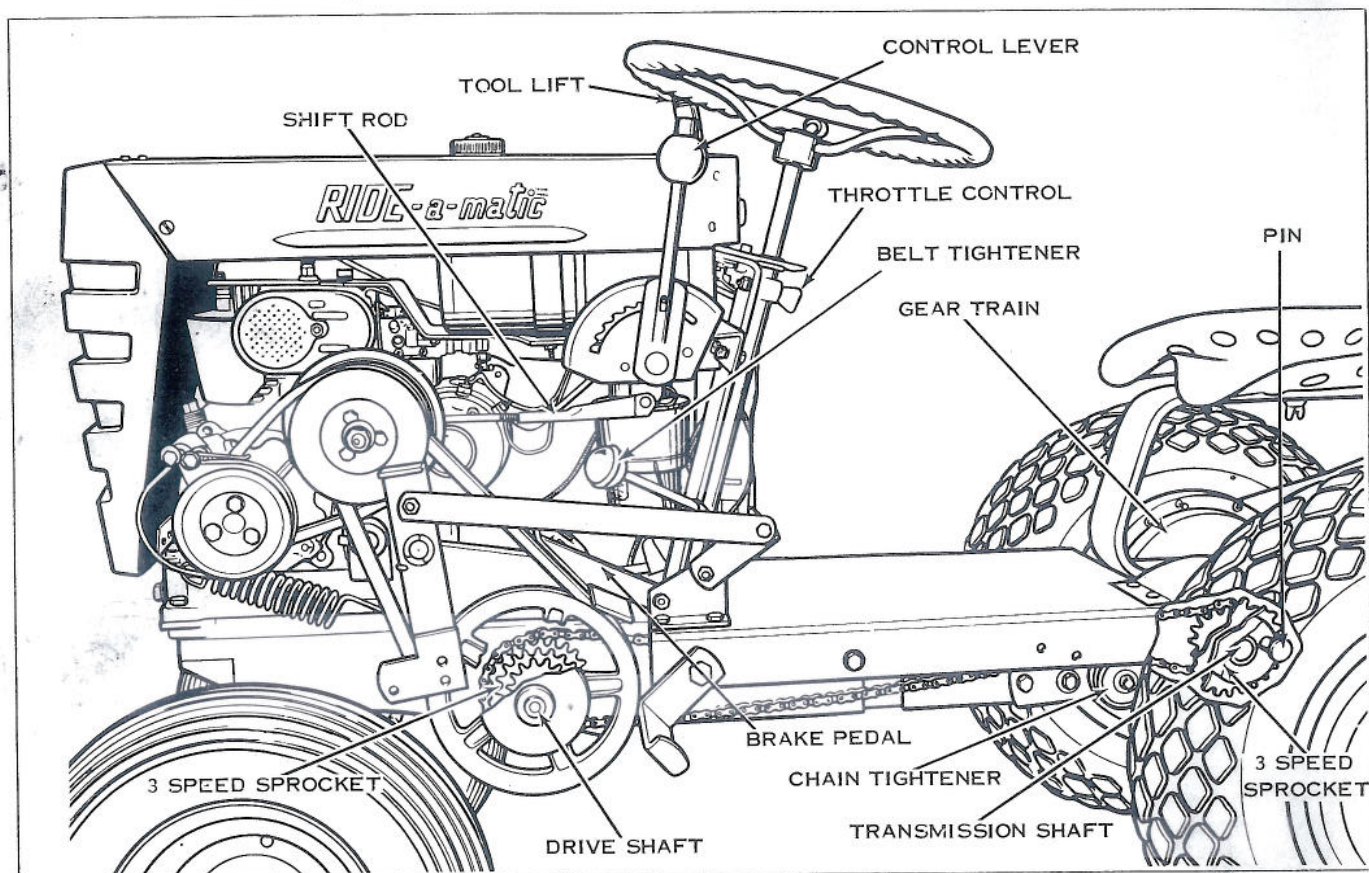

Figure 2
control located on right side of steering column. (2) Control lever for forward, neutral, and reverse at rear left of hood. (3) Tool lift lever for front, center, and rear mounted attachments on right side. (4) Belt tightener lever for attachment drive is located at the left bottom side of steering column. (5) Foot brake directly above left foot rest. Figure 2).
The tractor is designed to operate at three different ground speeds at full engine throttle. This is made possible by the multiple drive sprockets on left side of tractor frame (Figure 2). See following chart for speed settings.
To move tractor manually, pull the pin located in hub of rear chain sprocket to the notch, thereby releasing the rear wheels from the drive train. When the pin in the tractor is in drive position it can be moved only under power (Figure 2).